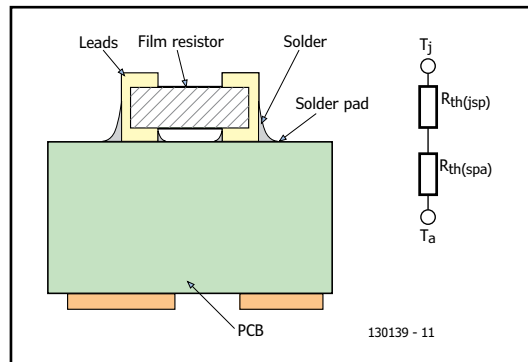

Figure 1. Thermal parameters for a wraparound chip resistor.
Referring to **Figure 1**, resistor manufacturers need only take care of  $R_{th(jsp)}$ , but must carefully consider their choice of material, the resistor pattern, terminations, etc. Manufacturers who also improve thermal stability can offer resistors that can withstand higher and higher temperatures without undergoing significant drifts. This removes limitations on  $T_j$ .
- Temperature versus drift was plotted against time and appears in **Figure 1**.